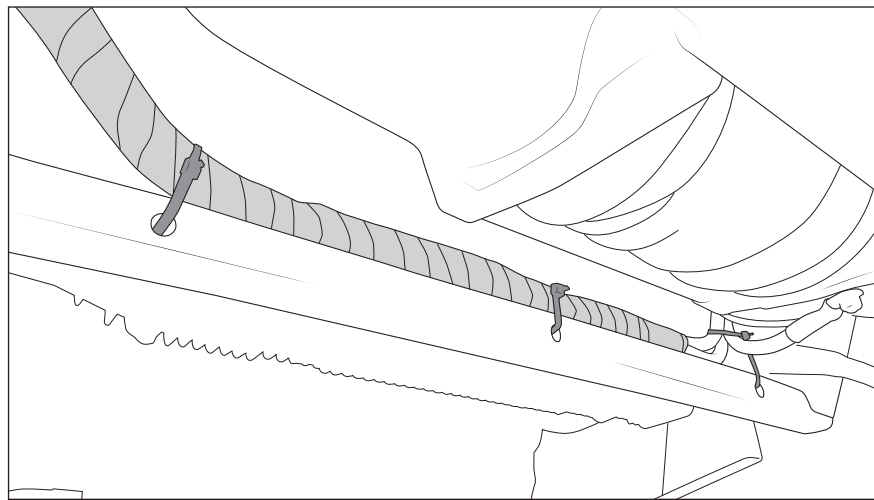

Figure 20
14. Secure wire loom with zip ties (fig 20).